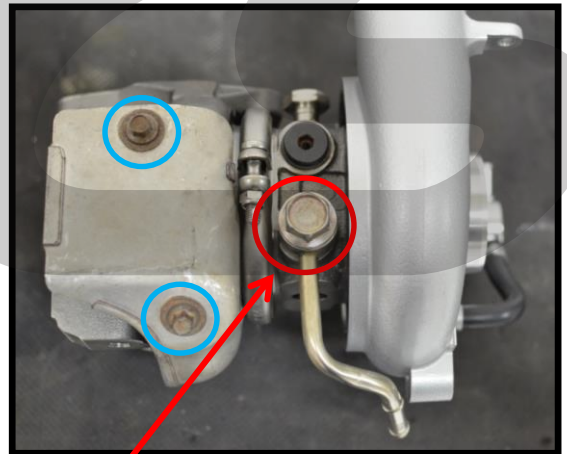

Figure 10a
- Remove the 17mm banjo bolt & lower coolant hard line from the OEM turbocharger, shown with the red circle in **Figure 10a**. Install this line on the CS turbocharger with the two new provided M14 copper crush washers. **Torque to 20 ft-lb.**
- Remove the two 8mm bolts holding the turbine heat shield, circled in blue in **Figure 10a**. Install the heat shield on the CS turbocharger. **Torque to 10 ft-lbs.**